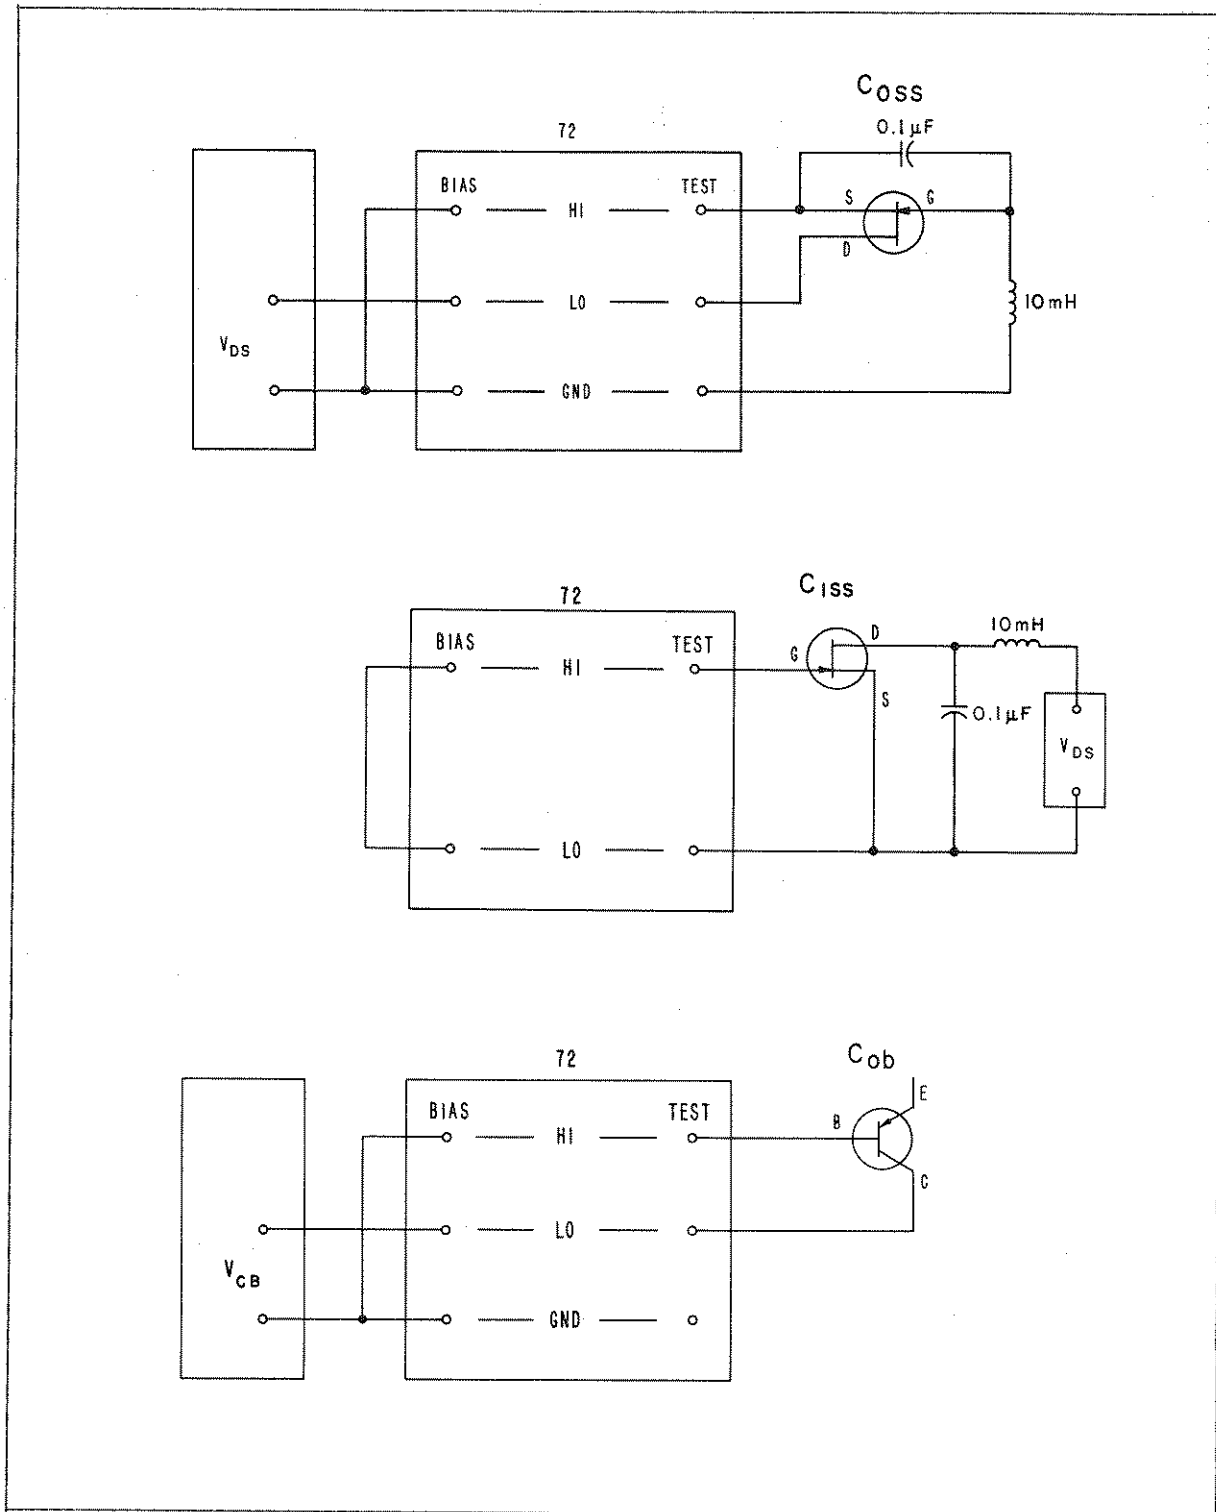

Figure 2-3. Transistor Capacitance Measurements: C_{oss} , C_{iss} and C_{ob}
B. Capacitance (Two Terminal). See Figure 2-3.